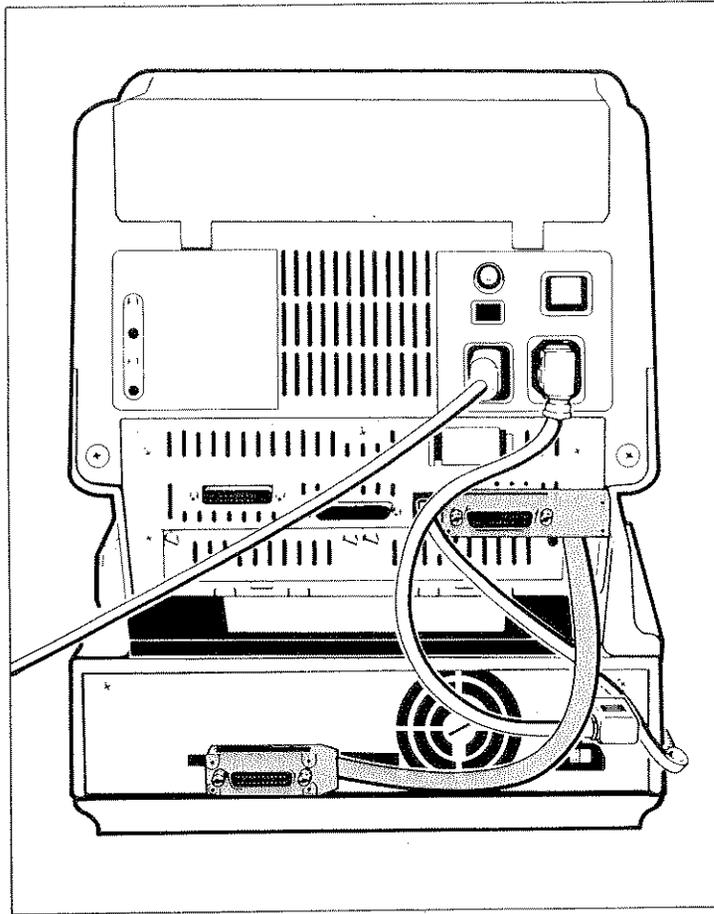

Figure 4: HP-IB cable connecting your computer and disc drive.
- Figure 4 illustrates the appearance of the HP-IB cable with an HP Touchscreen computer. If you have a different computer, the HP-IB connection on your computer may be in a different position.